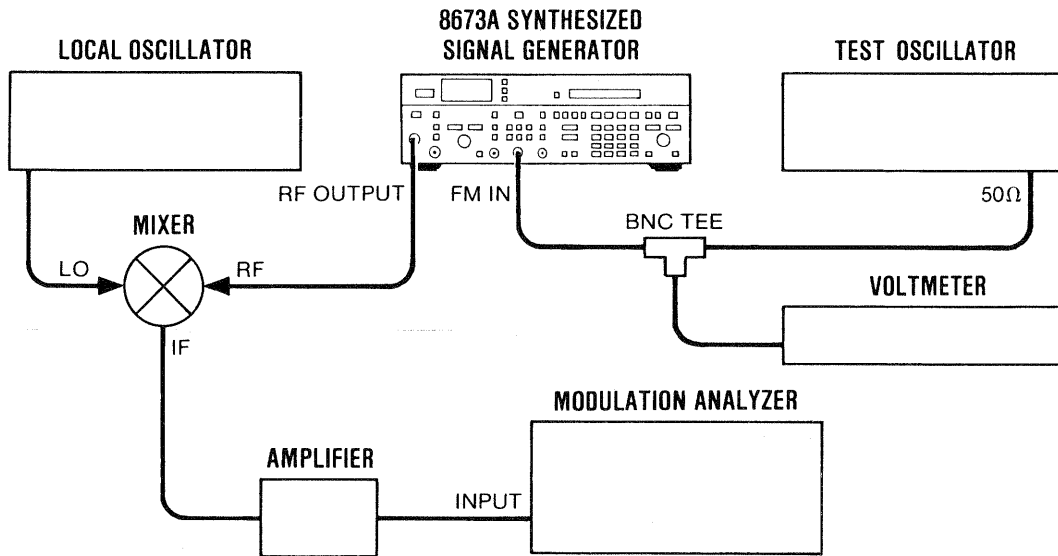

Figure 5-15. FM Accuracy and Overmodulation Adjustment Test Setup
1. Connect the equipment as shown in Figure 5-15.